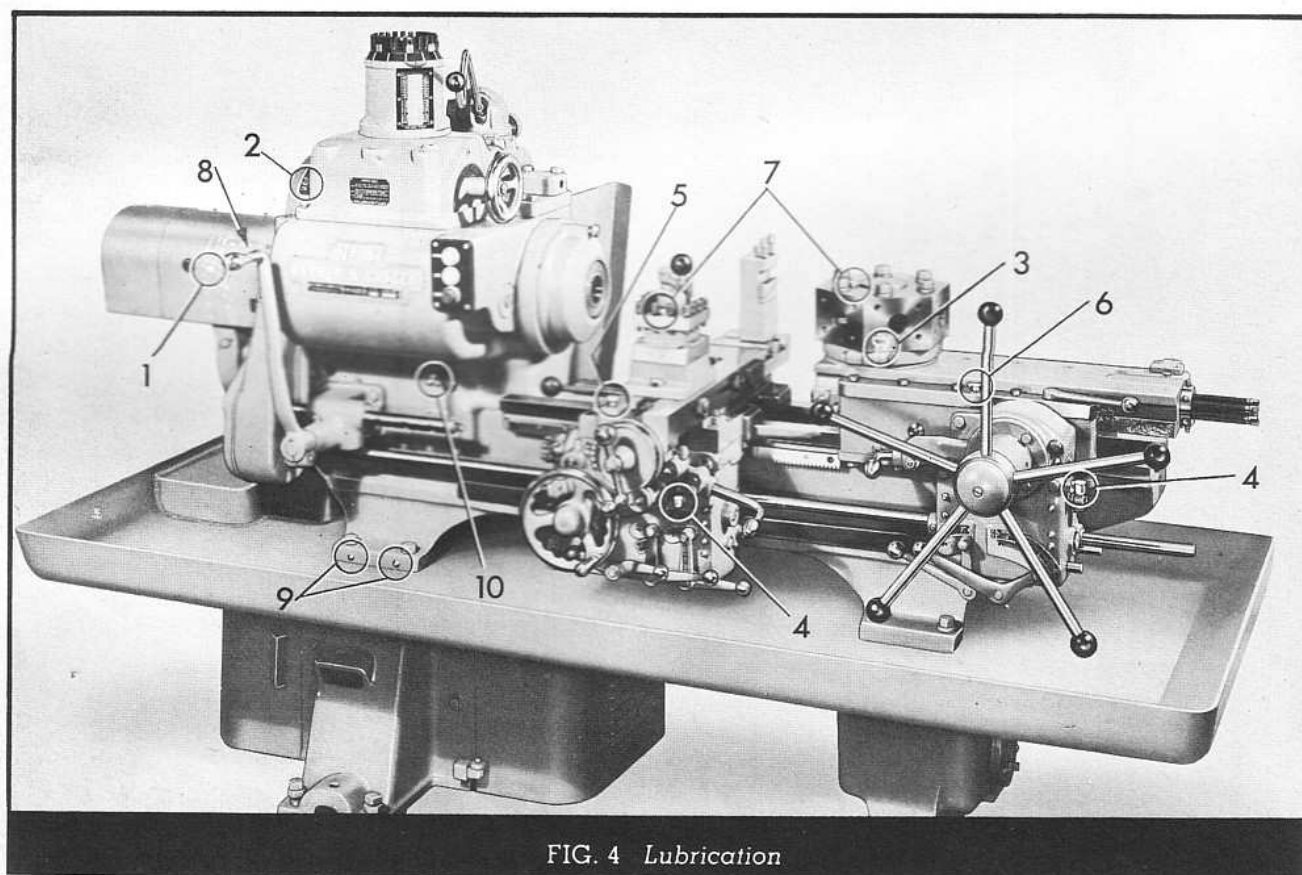

FIG. 4 Lubrication
On some Warner & Swasey Turret Lathes there is an instruction plate, (2), Fig. 4 which gives complete information for proper lubrication of the machine. If your machine does not have a lubrication instruction plate, the following instructions should be used as a guide:
grease gun furnished with machine or use a power grease gun if available. Be sure to grease the fitting inside of hexagon turret center hole (3), Fig. 4 and if bar equipment is furnished, look for two fittings (front and rear) on upper end of wedge shifter fork at left hand end of spindle (1) Fig. 4.
3. Grease three fittings located in round grease block below head on front of machine (10), Fig. 4. These carry grease to rear of machine to lubricate the coolant pump and headstock lubricating pump.
5. Fill worm troughs (4), Fig. 4 generously in both aprons through oilers with same grade of oil as is used in headstock.
6. Move cross slide all the way in and then fill the plunger pump (5), Fig. 4 FOUR TIMES with oil. Force the oil down by inserting plunger and pushing it all the way down each time. This pump delivers oil to the front and rear bedways, the cross slide ways, and the cross feed screw and its nut.
7. Fill oil cups on front and rear of turret slide caps (6), Fig. 4.
8. Fill oil cups on top of hexagon turret and on the square turret (7), Fig. 4.
9. On machines with bar chucks, apply a mixture of graphite powder and machine oil to the left hand end of spindle where the hardened wedge (or spool) slides (8), Fig. 4. Do this for several days until these units are thoroughly burnished or "run in."
The left hand (head end) leg of the bed is bolted to the floor leg directly, while the pan can slide a limited amount between the two to allow the pan to expand or contract without affecting the bed alignment. This slip joint is packed in waterproof grease and should not require attention. If, however, slight leaks should ever develop, remove the four $\frac{1}{4}$ " pipe plugs in the bed leg near the pan (9), Fig. 4, insert a grease fitting and apply waterproof automobile water pump grease, available in most automobile service stations.